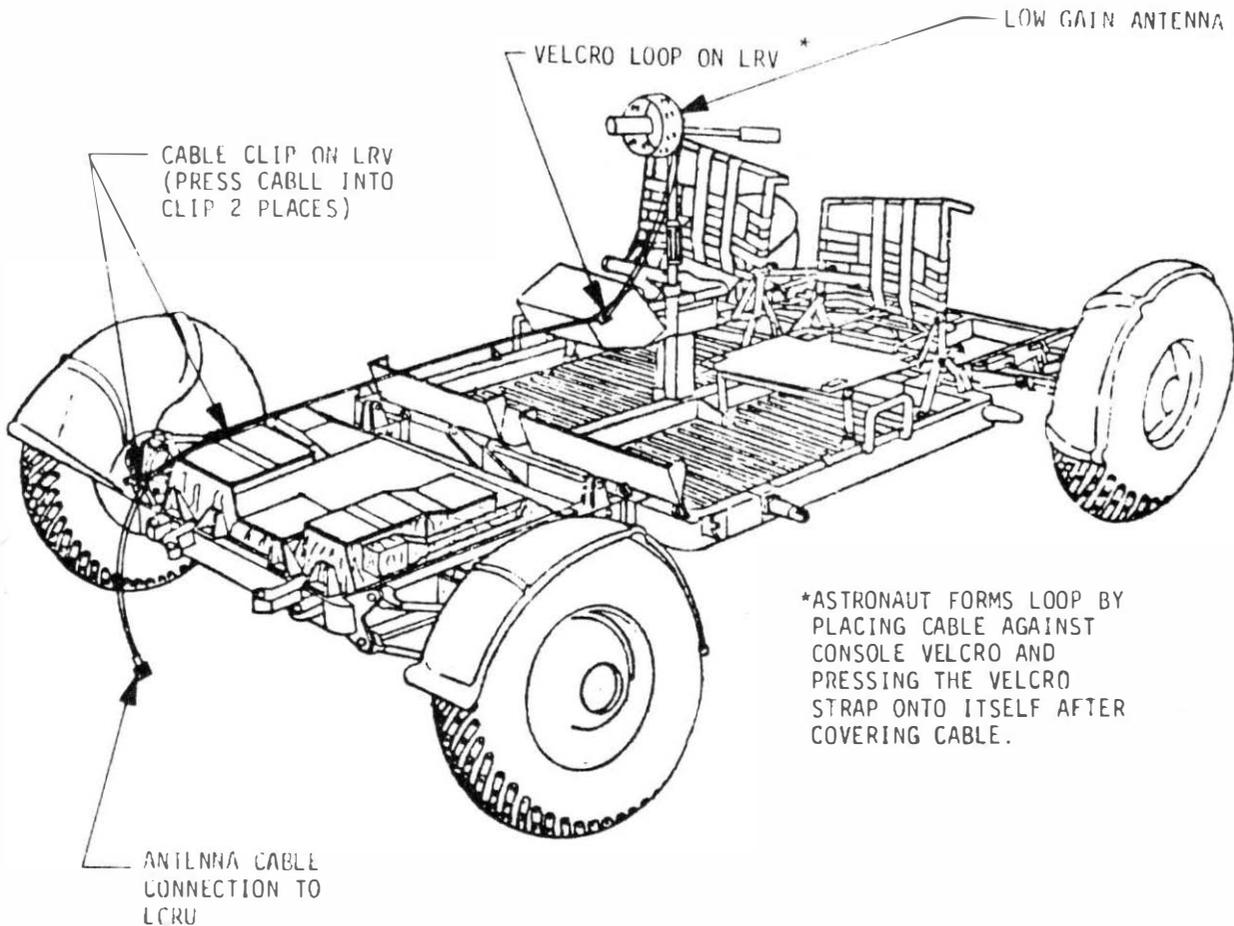

FIGURE 2-15 LCRU LOW GAIN ANTENNA CABLE INSTALLATION ON LUNAR SURFACE
d. Route low gain antenna cable to LCRU and secure to LRV with strap on console and clips on forward chassis.	Figure 2-15.